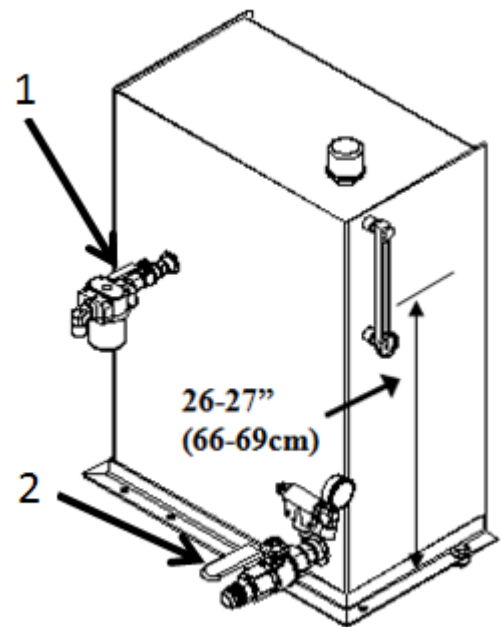

Figure 4-5: Hydraulic Oil Level
4.2.2 Hydraulic Tank Oil Level and Valve Position: Refer to section 11.0, Lubrication and Maintenance, for the service schedule, oil type, and filter replacement info. “Full Cold Line” on the decal should be at the dimension shown in Figure 4-5.
! CAUTION: Valves (1 & 2) must be open prior to engaging the PTO or system failure will occur. Valves in Figure 4-5 are shown in the open position.